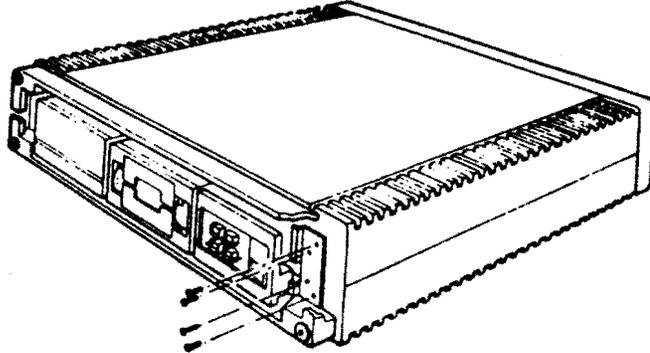

Figure 6-9: Front Bracket Removal
5. Remove the front chassis retaining bracket by removing the screws that secure it to the enclosure (Figure 6-9).